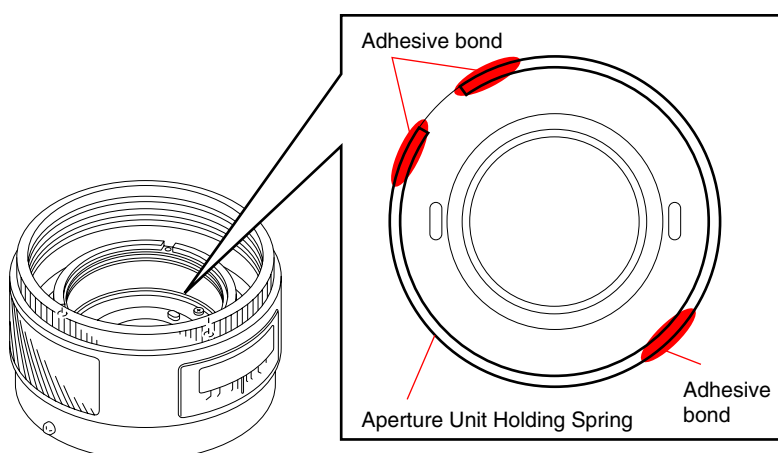

Fig.4-2-13
- 5) After the adjustment is completed, apply the adhesive bond (B-10) as shown in the Fig.4-2-13.